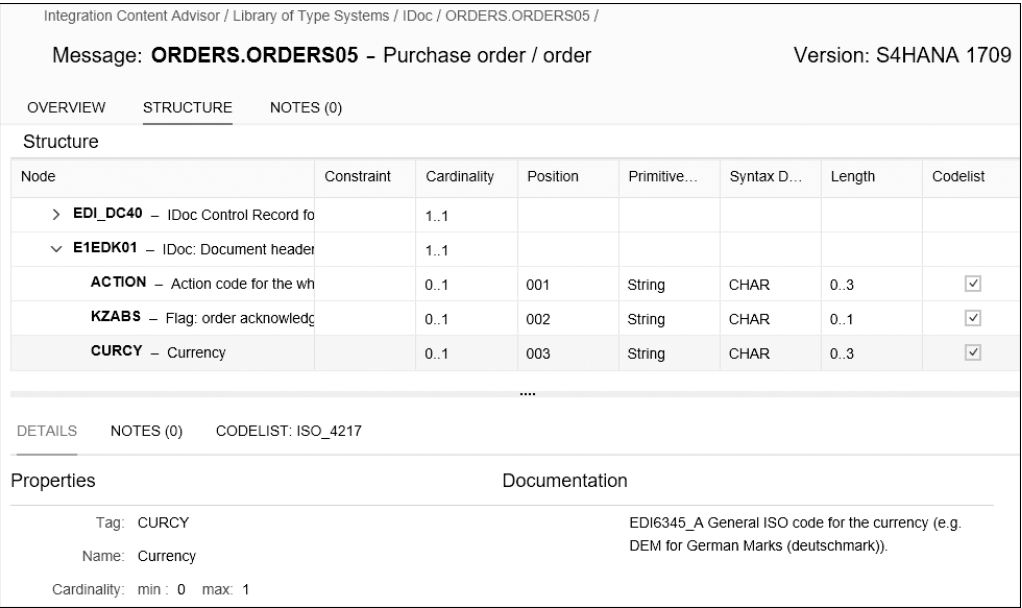

Figure 7.8 Properties of the Field CURCY
7. You can drill down into single fields by opening the tree structure. Selecting dedicated fields opens the **Properties** view for the selected field below the tree structure. In Figure 7.8, for example, the details of the field **CURCY** are shown. The **DETAILS** tab provides information such as the **Tag**, **Name**, **Cardinality**, and **Documentation** for the field.